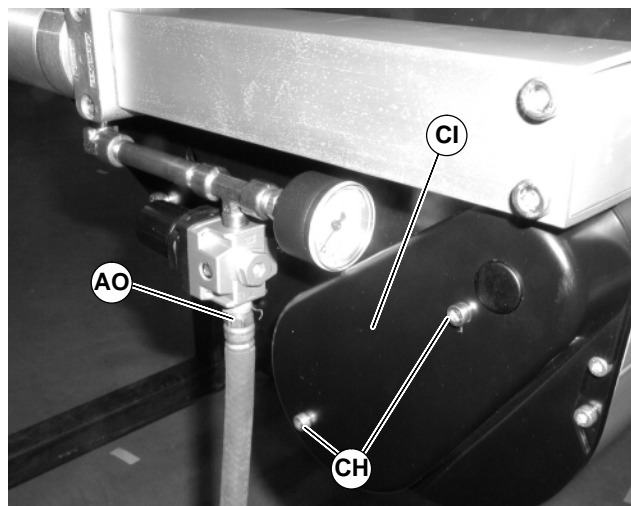

Figure 89
1. Remove air supply (AO of Figure 89) from center drive module.
2. Remove screws (CH of Figure 89) and cover (CI).
8. Reinstall cover (CI of Figure 89). Tighten screws (CH) to 69 in-lbs (8 N-m).